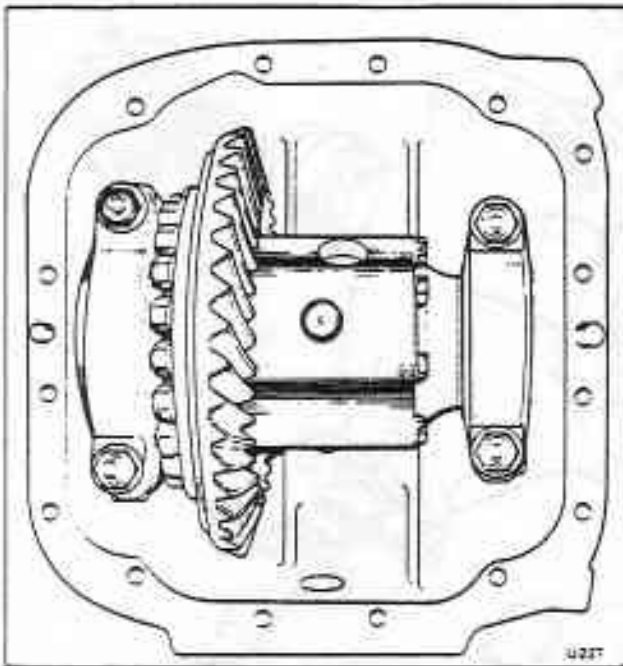

Fig. J1-5 Differential and crown wheel in position
2. Remove the nuts and washers from the bearing caps on each side of the crown wheel and differential assembly (see fig. J1-5).